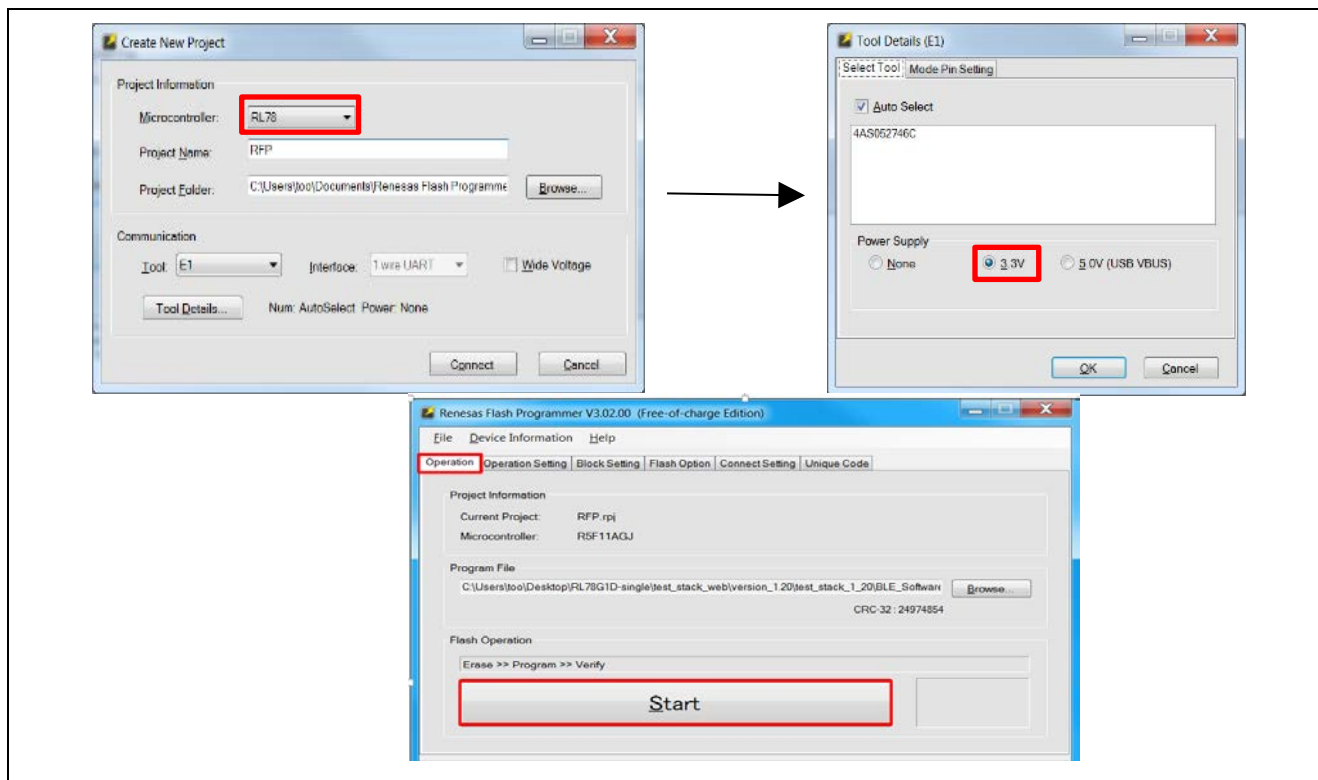

Figure 6 Renesas Flash Programmer
3. To program RL78/G1D modem project output (BLE_Emb.hex), launch the **Renesas Flash Programmer** (RFP). See Figure 6 for applicable screens.